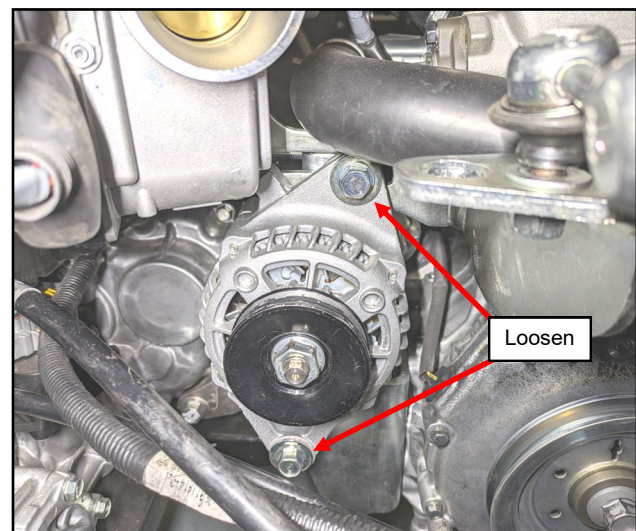

Fig. 2.13 (Loosen Alt Hardware & Remove Belt)
2.13 Loosen alternator mounting hardware, loosen the tensioner to rotate alternator forward, and remove factory belt per fig. 2.13.